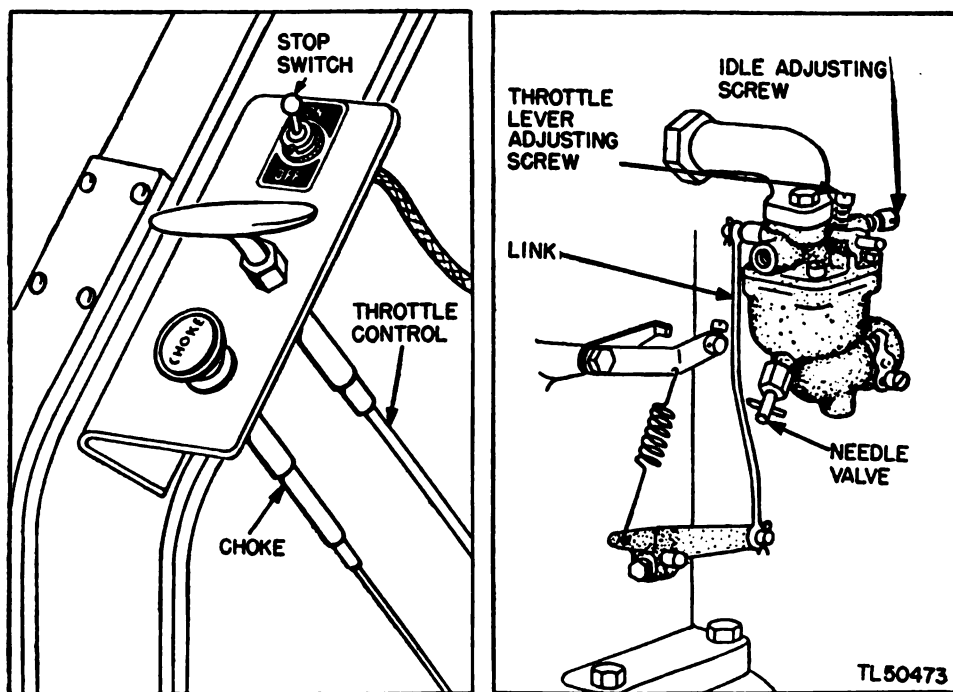

Figure 47. Carburetor, governor, and manual control mechanism on Reel Unit RL-26-().
a. *ADJUSTING SPEED*. The speed of the Briggs and Stratton engines is adjusted at the control panel. (See fig. 47.) To increase the engine speed, turn the throttle counterclockwise and pull it out until the engine runs at the desired speed. To decrease the engine speed, push down the throttle control. After the speed has been adjusted, turn the lever clockwise to lock it. The normal operating speed of the Briggs and Stratton engine, model A, type No. 208072, on Reel Units RL-26 and RL-26-A is 3,600 rpm. The normal operating speed of the Briggs and Stratton engine, model AP, type No. 208286 is 3,200 rpm.